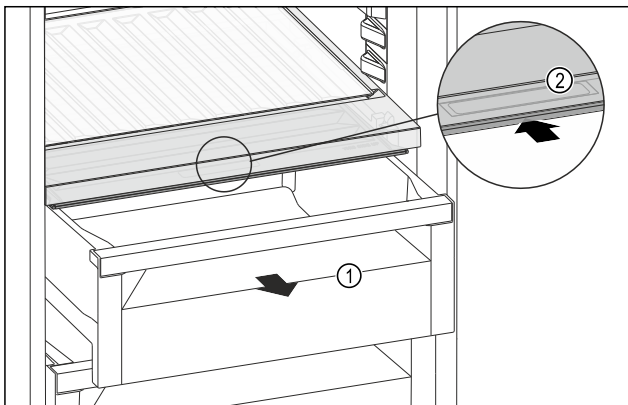

Fig. 93
- Pull out the drawer Fig. 93 (1).
- Grip the handle recess Fig. 93 (2) on the lid while pulling the lid backward at the same time.